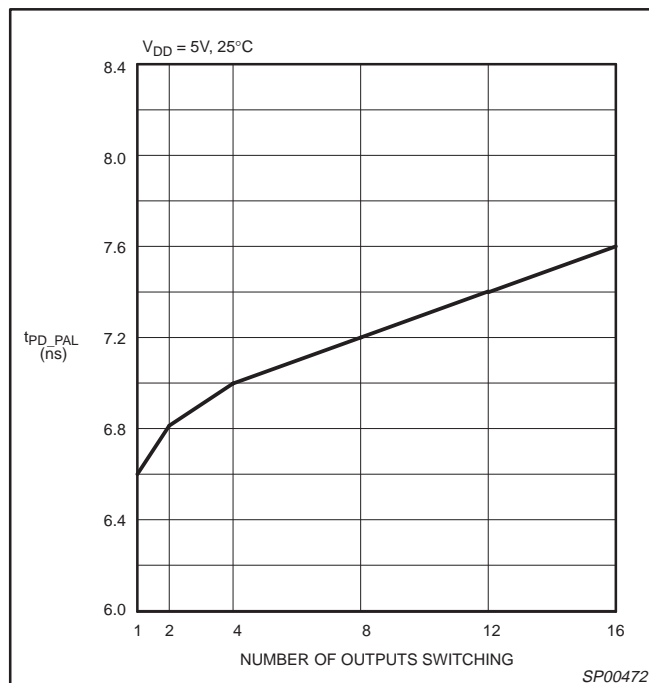

Figure 6. t_{PD_PAL} vs. Outputs Switching
- Specifications measured with one output switching. See Figure 6 and Table 8 for derating.